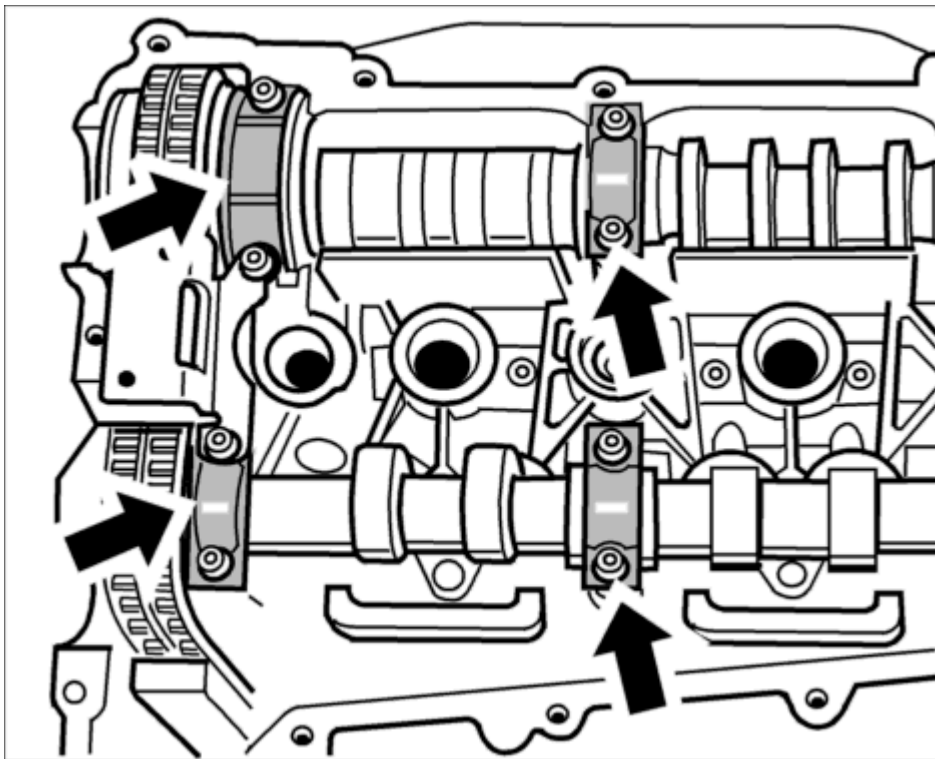

Fig. 73: Installation position of housing
9. Insert three thrust bearings and one housing **-arrows-** for the bearing sleeve of the camshafts together with the guide rail for the timing chain. See **Fig. 73**.